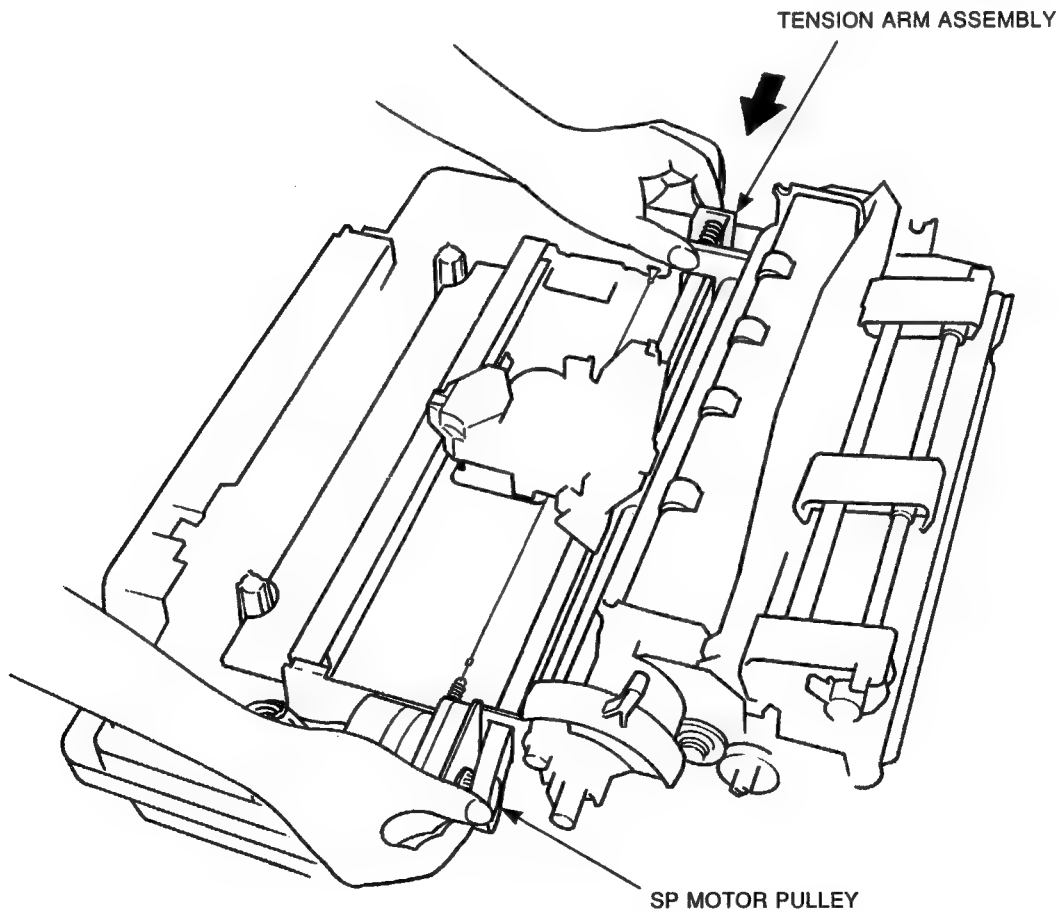

Figure 3-45 Timing Belt
1. Press the tension arm to the left side frame and remove the timing belt from the SP motor pulley (see Figure 3-45).